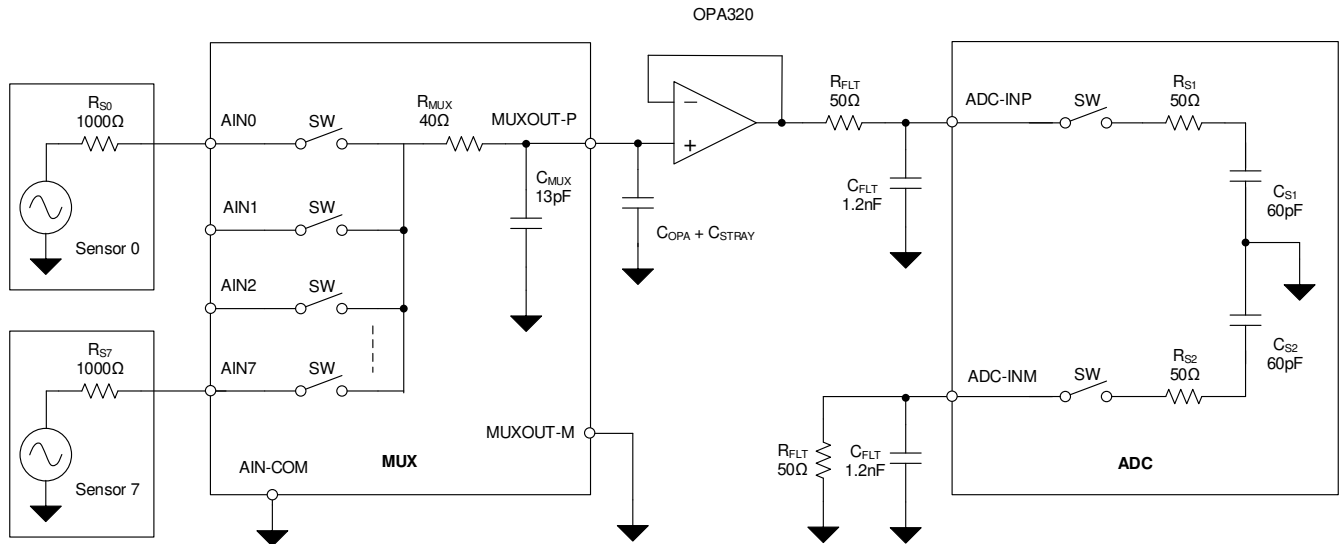
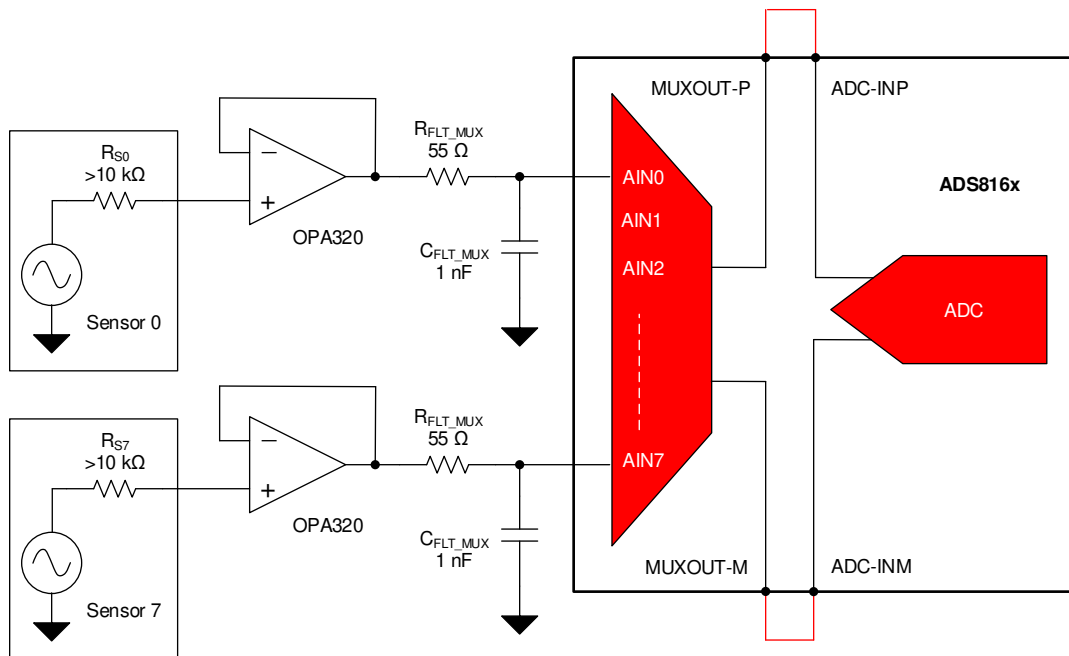

图 8-2. Direct Sensor Interface With the ADS816x in an 8-Channel, Single-Ended Configuration
图 8-3. High Output Impedance Sensor Interface
When connecting the sensor directly to the input of the ADS816x, the maximum switching speed of the multiplexer is limited by multiplexer on-resistance and parasitic capacitance. 图 8-2 illustrates the source resistance (R_{S0} , R_{S1} , and so forth), multiplexer impedance (R_{MUX}), multiplexer capacitance (C_{MUX}), op amp input capacitance (C_{OPA}), and the stray PCB capacitance at the output of the multiplexer (C_{STRAY}). In this example, the total output capacitance is the combination of the multiplexer output capacitance, the op amp input capacitance, and the stray capacitance ($C_{MUX} + C_{OPA} + C_{STRAY}$) = 15pF. When switching to a channel, make sure this capacitance is charged to the sensor output voltage with the source resistance and the multiplexer resistance ($R_{S0} + R_{MUX}$).
图 8-3 shows that the multiplexer inputs are driven using an amplifier. The multiplexer outputs are connected to the ADC inputs directly. For best distortion performance, place an amplifier between the multiplexer and the ADC as shown in 图 8-2.
- Select an input amplifier for rapid settling when the multiplexer switches channels. This selection is covered in the Multiplexer Input Connection section. The OPA320 buffer and associated RC filter illustrated in 图 8-3 meet these requirements.